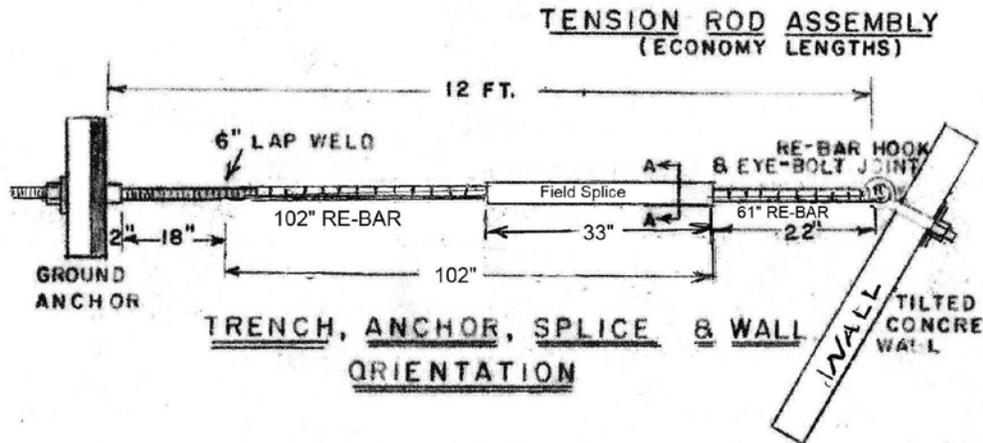
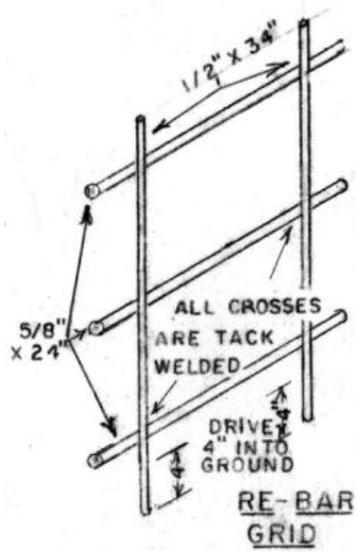
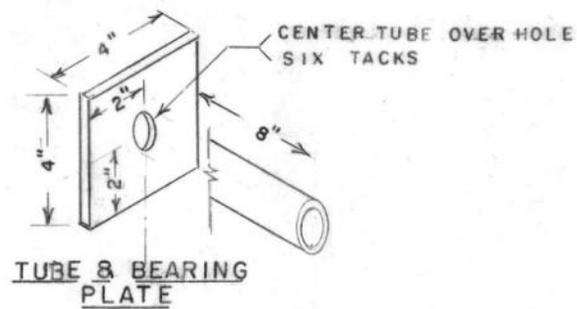

Figure 3 - Tension Rod Assembly
Figure 4 - Re-Bar Grid
Figure 6- Tube and Bearing Plate
Each of the three ground anchors requires a welded re-bar grid of reinforcing steel. The grid contains three  $\frac{5}{8}$ " horizontal rods 24" long, spaced at 12" vertically, and two  $\frac{1}{2}$ " vertical rods 34" long 16" apart. (See Figure 3 - Tension Rod Assembly, Figure 4 - Re-Bar Grid, and Figure 6- Tube and Bearing Plate, page 21)
Note: The two weldments (Figure 4 and Figure 11) must be enclosed before attaching the back half of the form to the front face..
*¾" re-bar rods, once combined, connect the sturdy ground anchor to the, soon to be up-righted, tilting concrete wall. (see Figure 3 - Tension Rod Assembly, page 21)*